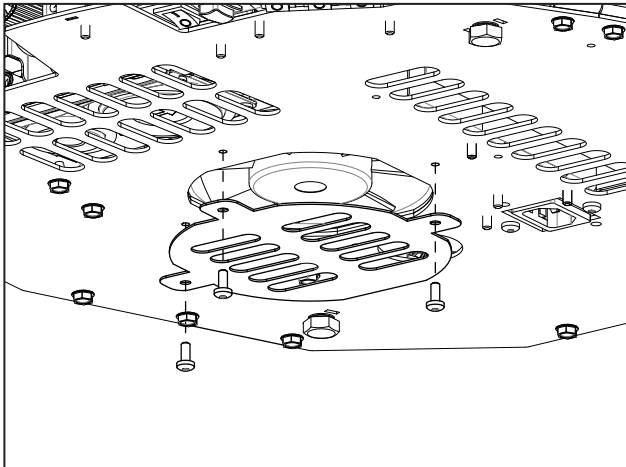

Figure 18: Fan Cover Installation
5. Retrieve the fan cover included with the starter kit and attach it to the bottom of the unit using four (4) #8 T20 screws as shown in Figure 18.